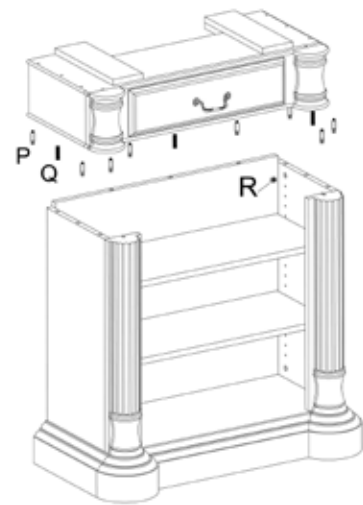

Figure 4
3. Place 3 WOOD DOWELS (Q) and screw 8 CAM DOWELS (P) into the DRAWER ASSEMBLY (I) as shown in Figure 4. Insert 8 CAM LOCKS (R) into the mating holes in the BASE ASSEMBLY with the triangle arrow pointing towards the hole in the edge. Mate the BASE ASSEMBLY with WOOD DOWELS (Q) and CAM DOWELS (P) in DRAWER ASSEMBLY (I) and twist CAM LOCKS (R) clockwise with a screwdriver to tighten DRAWER ASSEMBLY to BASE ASSEMBLY.